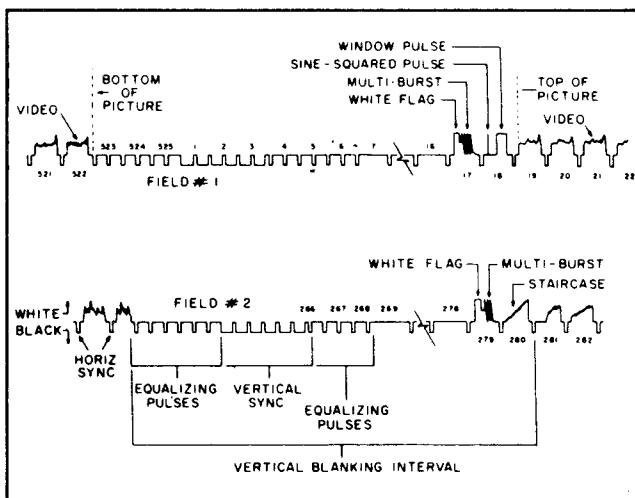

Fig. 21. Vertical blanking interval, showing typical VITS information.
8. Set the SWEEP TIME/CM control to the .1mS/CM position. This expands the display by increasing the sweep speed, the VITS information will appear toward the right hand portion of the expanded waveform displays. The waveform information on each trace may appear as shown in the drawing of Fig. 21. Because there is no provision for synchronizing the oscilloscope display to either of the two fields which comprise a complete vertical frame, it cannot be predicted which field display will appear on the Channel A or Channel B display.